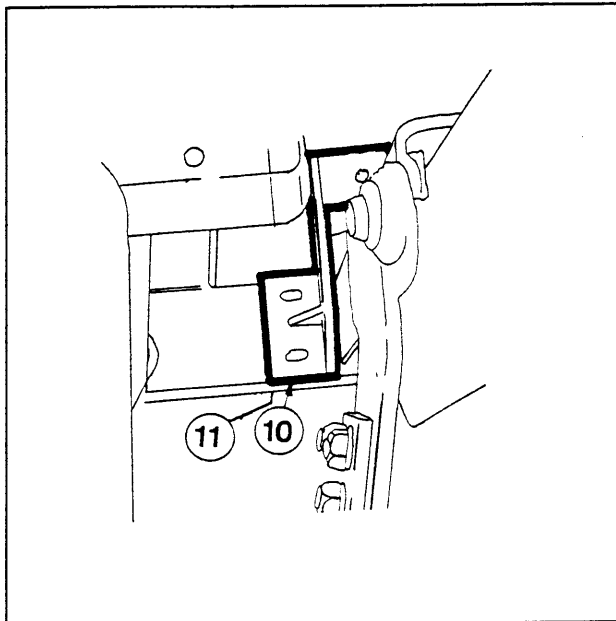

Figure 9
19. Take the left, front bracket (10) and position it against the two-hole bolt pattern drilled in step 18, with the cab mounting plate towards the rear and outside. Loosely bolt the bracket, through the loader subframe, to the front bracket supports (11) using the 1/2"x2" hex bolts, hex nuts, flatwashers and lockwashers supplied. (see Figure 9)